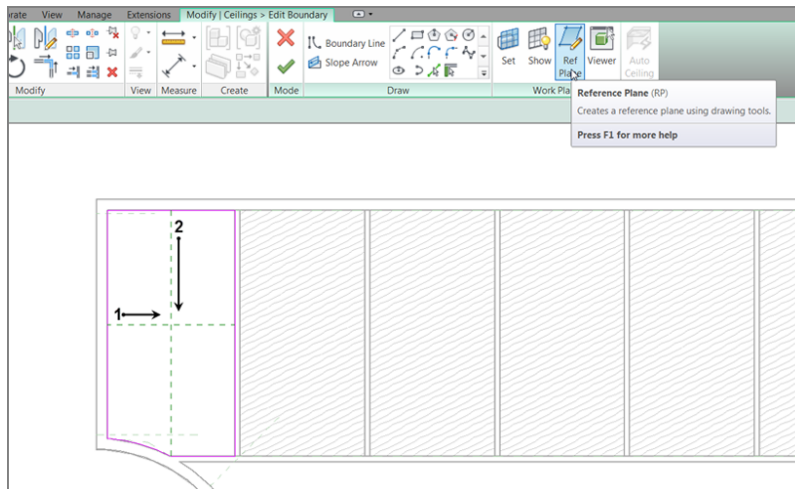

FIGURE 9.21: Drawing two reference planes to create a center intersection
4. Click the Ref Plane button on the Work Plane panel, as shown in Figure 9.21.
5. Draw two reference planes (see Figure 9.21). Be sure to snap to the midpoints of the magenta sketch lines.